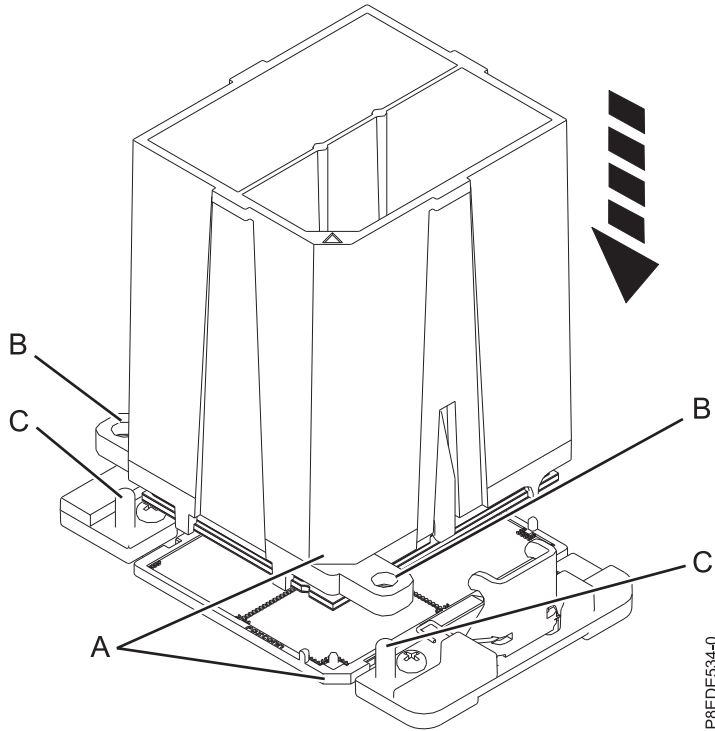

Figure 99. Installing the system processor module
- b. Lower the tool and system processor module onto the socket. Align the beveled corner (A) of the tool with the beveled corner on the socket. Ensure that the two guide pins (C) are inserted into the alignment holes (B) on each side of the tool. Use care to lower the tool evenly without tilting the tool. See Figure 99 on page 88.